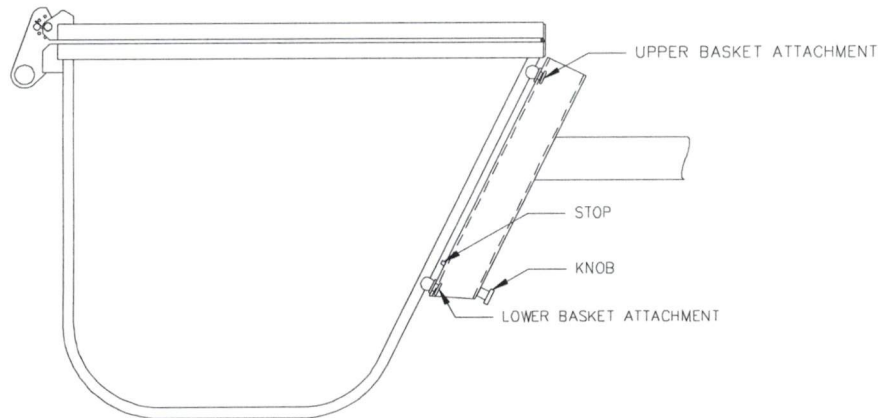

Figure 4 – Basket Attachment
1. Installation - Refer to Figure 4.
2. Removal - Refer to Figure 4.